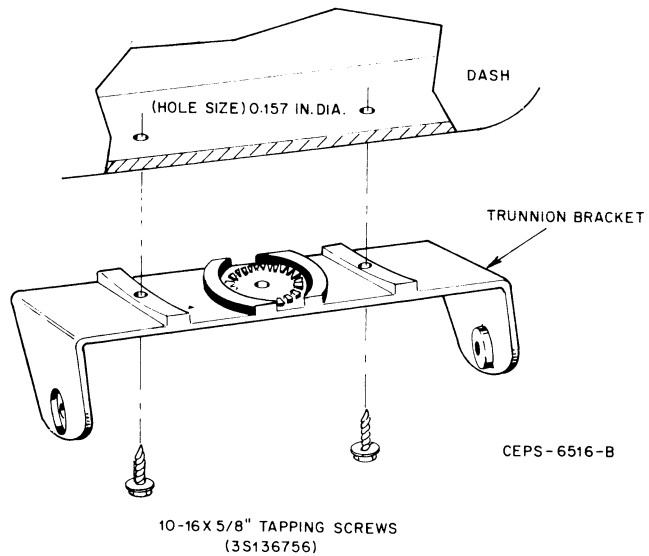

Figure 9.
b. Installation Procedure (Refer to Figure 9)
(1) Determine the location for mounting the control head.
(2) Remove the trunion bracket and retainer assembly from the control head by removing the two trunion side screws.